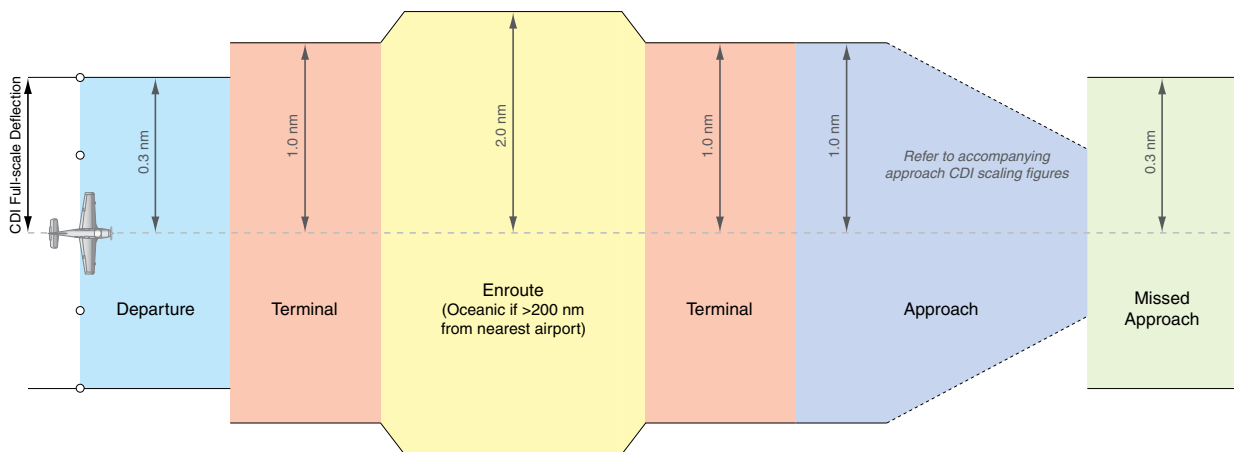

Figure 2-26 Automatic CDI Scaling
When set to Auto (default), the GPS CDI scale automatically adjusts to the desired limits based upon the current phase of flight (Figure 2-26, Table 2-2).
- During **approach**, the CDI scale decreases even further (Figures 2-26 and 2-27). This transition normally occurs within 2.0 nm of the final approach fix (FAF). The CDI changes to approach scaling automatically once the approach procedure is activated or if Vectors-To-Final (VTF) are selected.